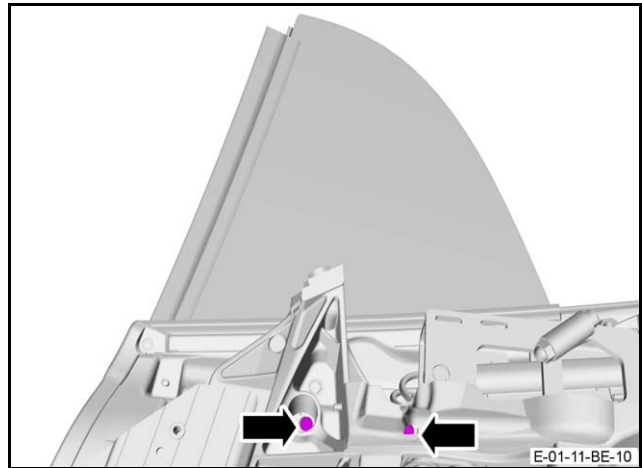

Figure 18
13. Loosely install the two quarter glass window attachment screws (Refer to Figure 18).